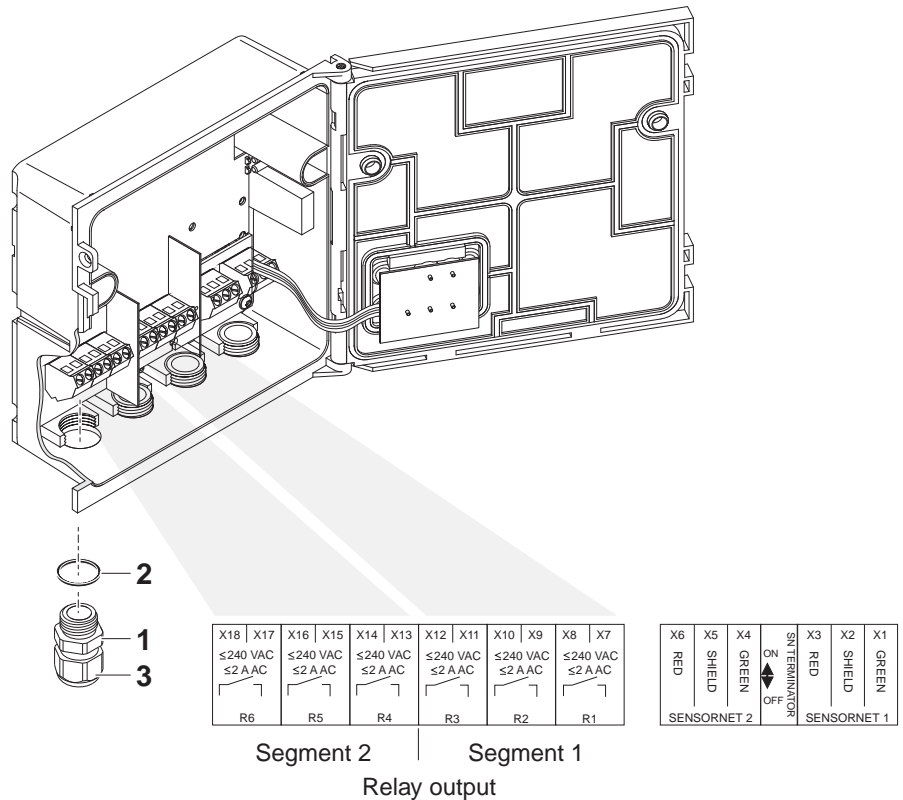

Fig. 3-1 Terminal strip with the relay connections
- 2 | Screw the cable gland (pos. 1 in Fig. 3-1) with the sealing ring (pos. 2) into the module housing.
- 3 | Loosen the coupling ring (pos. 3 in Fig. 3-1).
- 6 | Tighten the coupling ring (pos. 3 in Fig. 3-1).